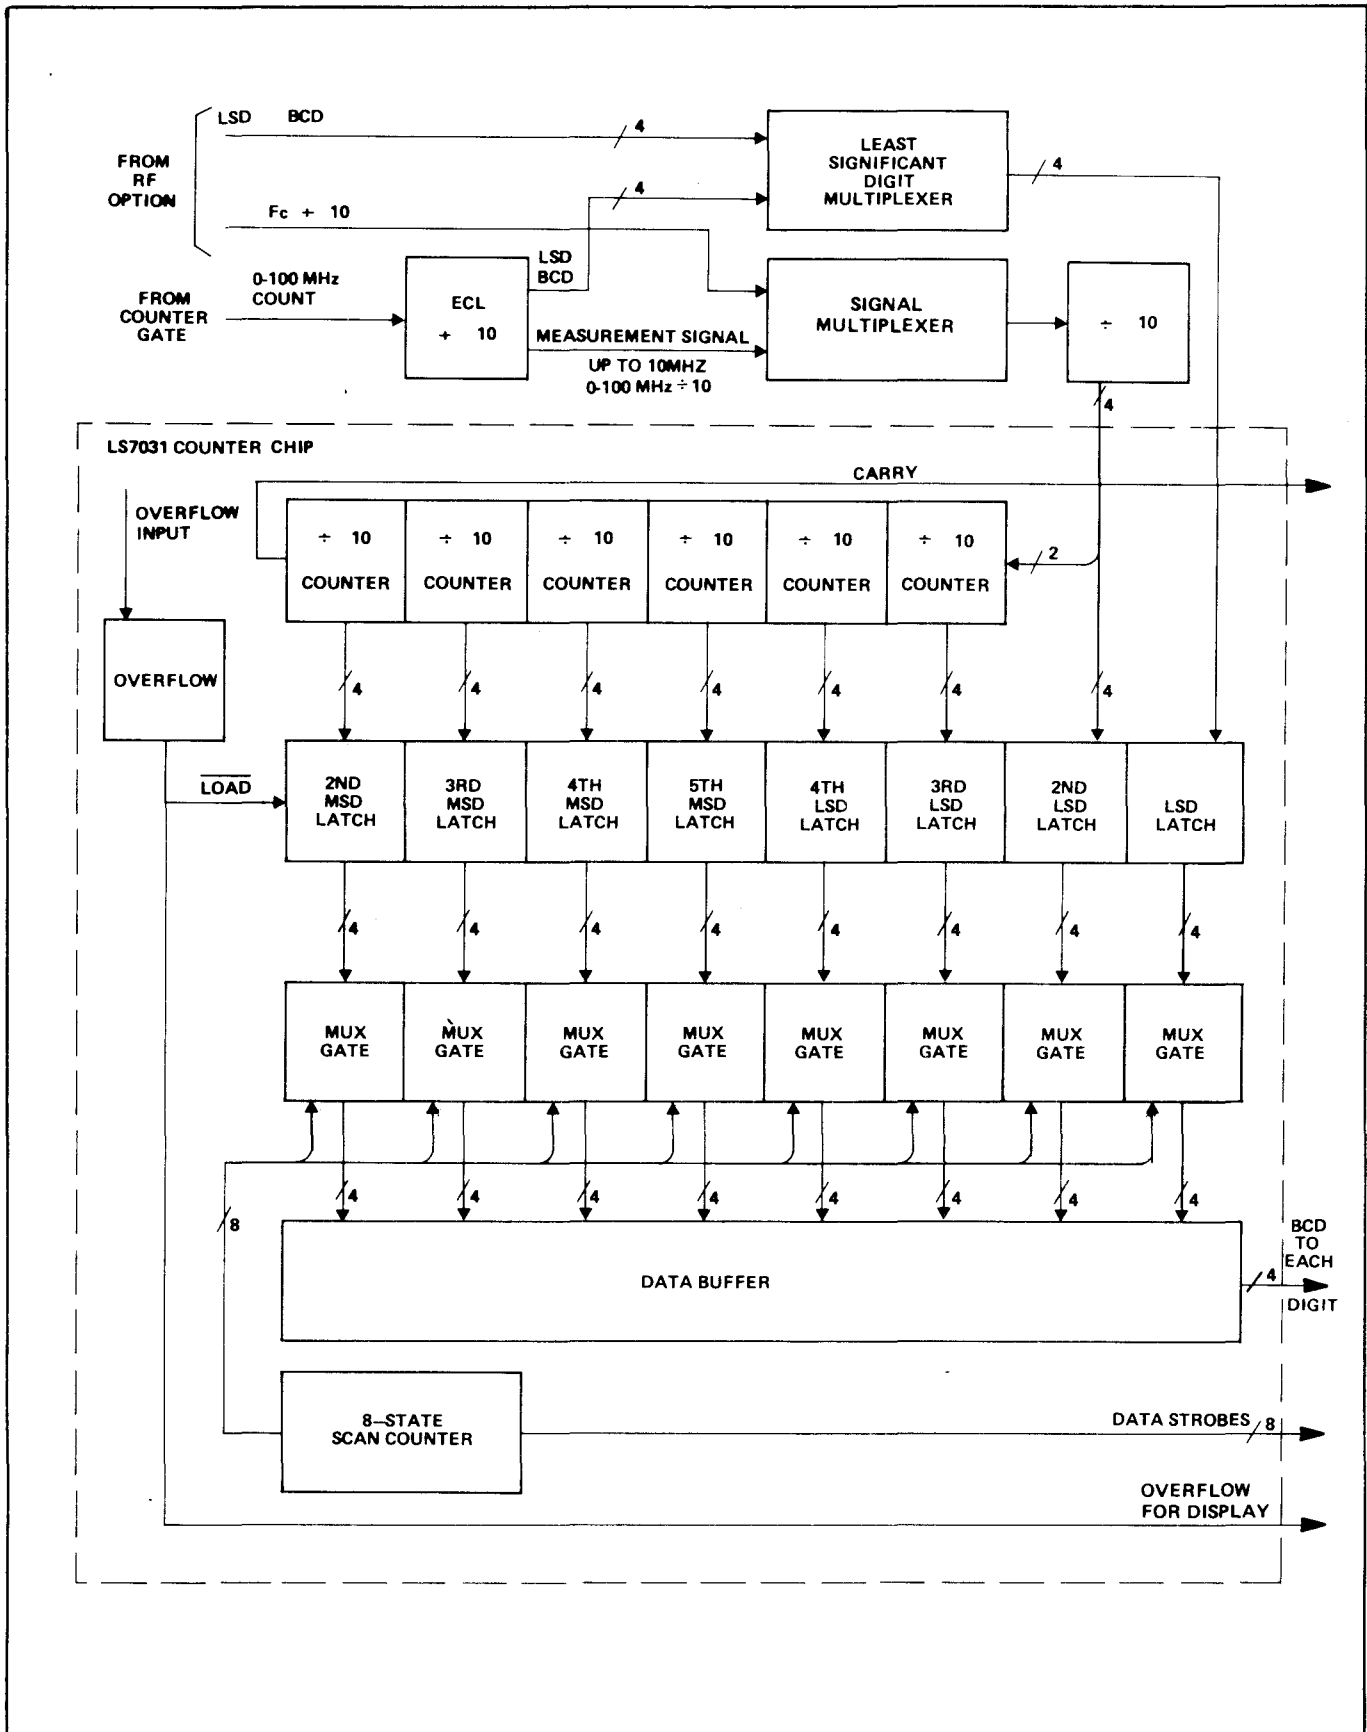

Figure 1.15 - Accumulator Functional Block Diagram
1.4.7.1 The accumulator is a 9 digit BCD counter whose function is to count pulses during the time that the measurement gate remains open. A functional block diagram of the accumulator is shown in figure 1.15. The least significant digit displayed is counted by the ECL divider on the main board or by a 500 MHz divider located on the optional R.F. board depending on the function selected. Control signal B11 selects the BCD output from the R.F. board or from the 100 MHz ECL decade counter.